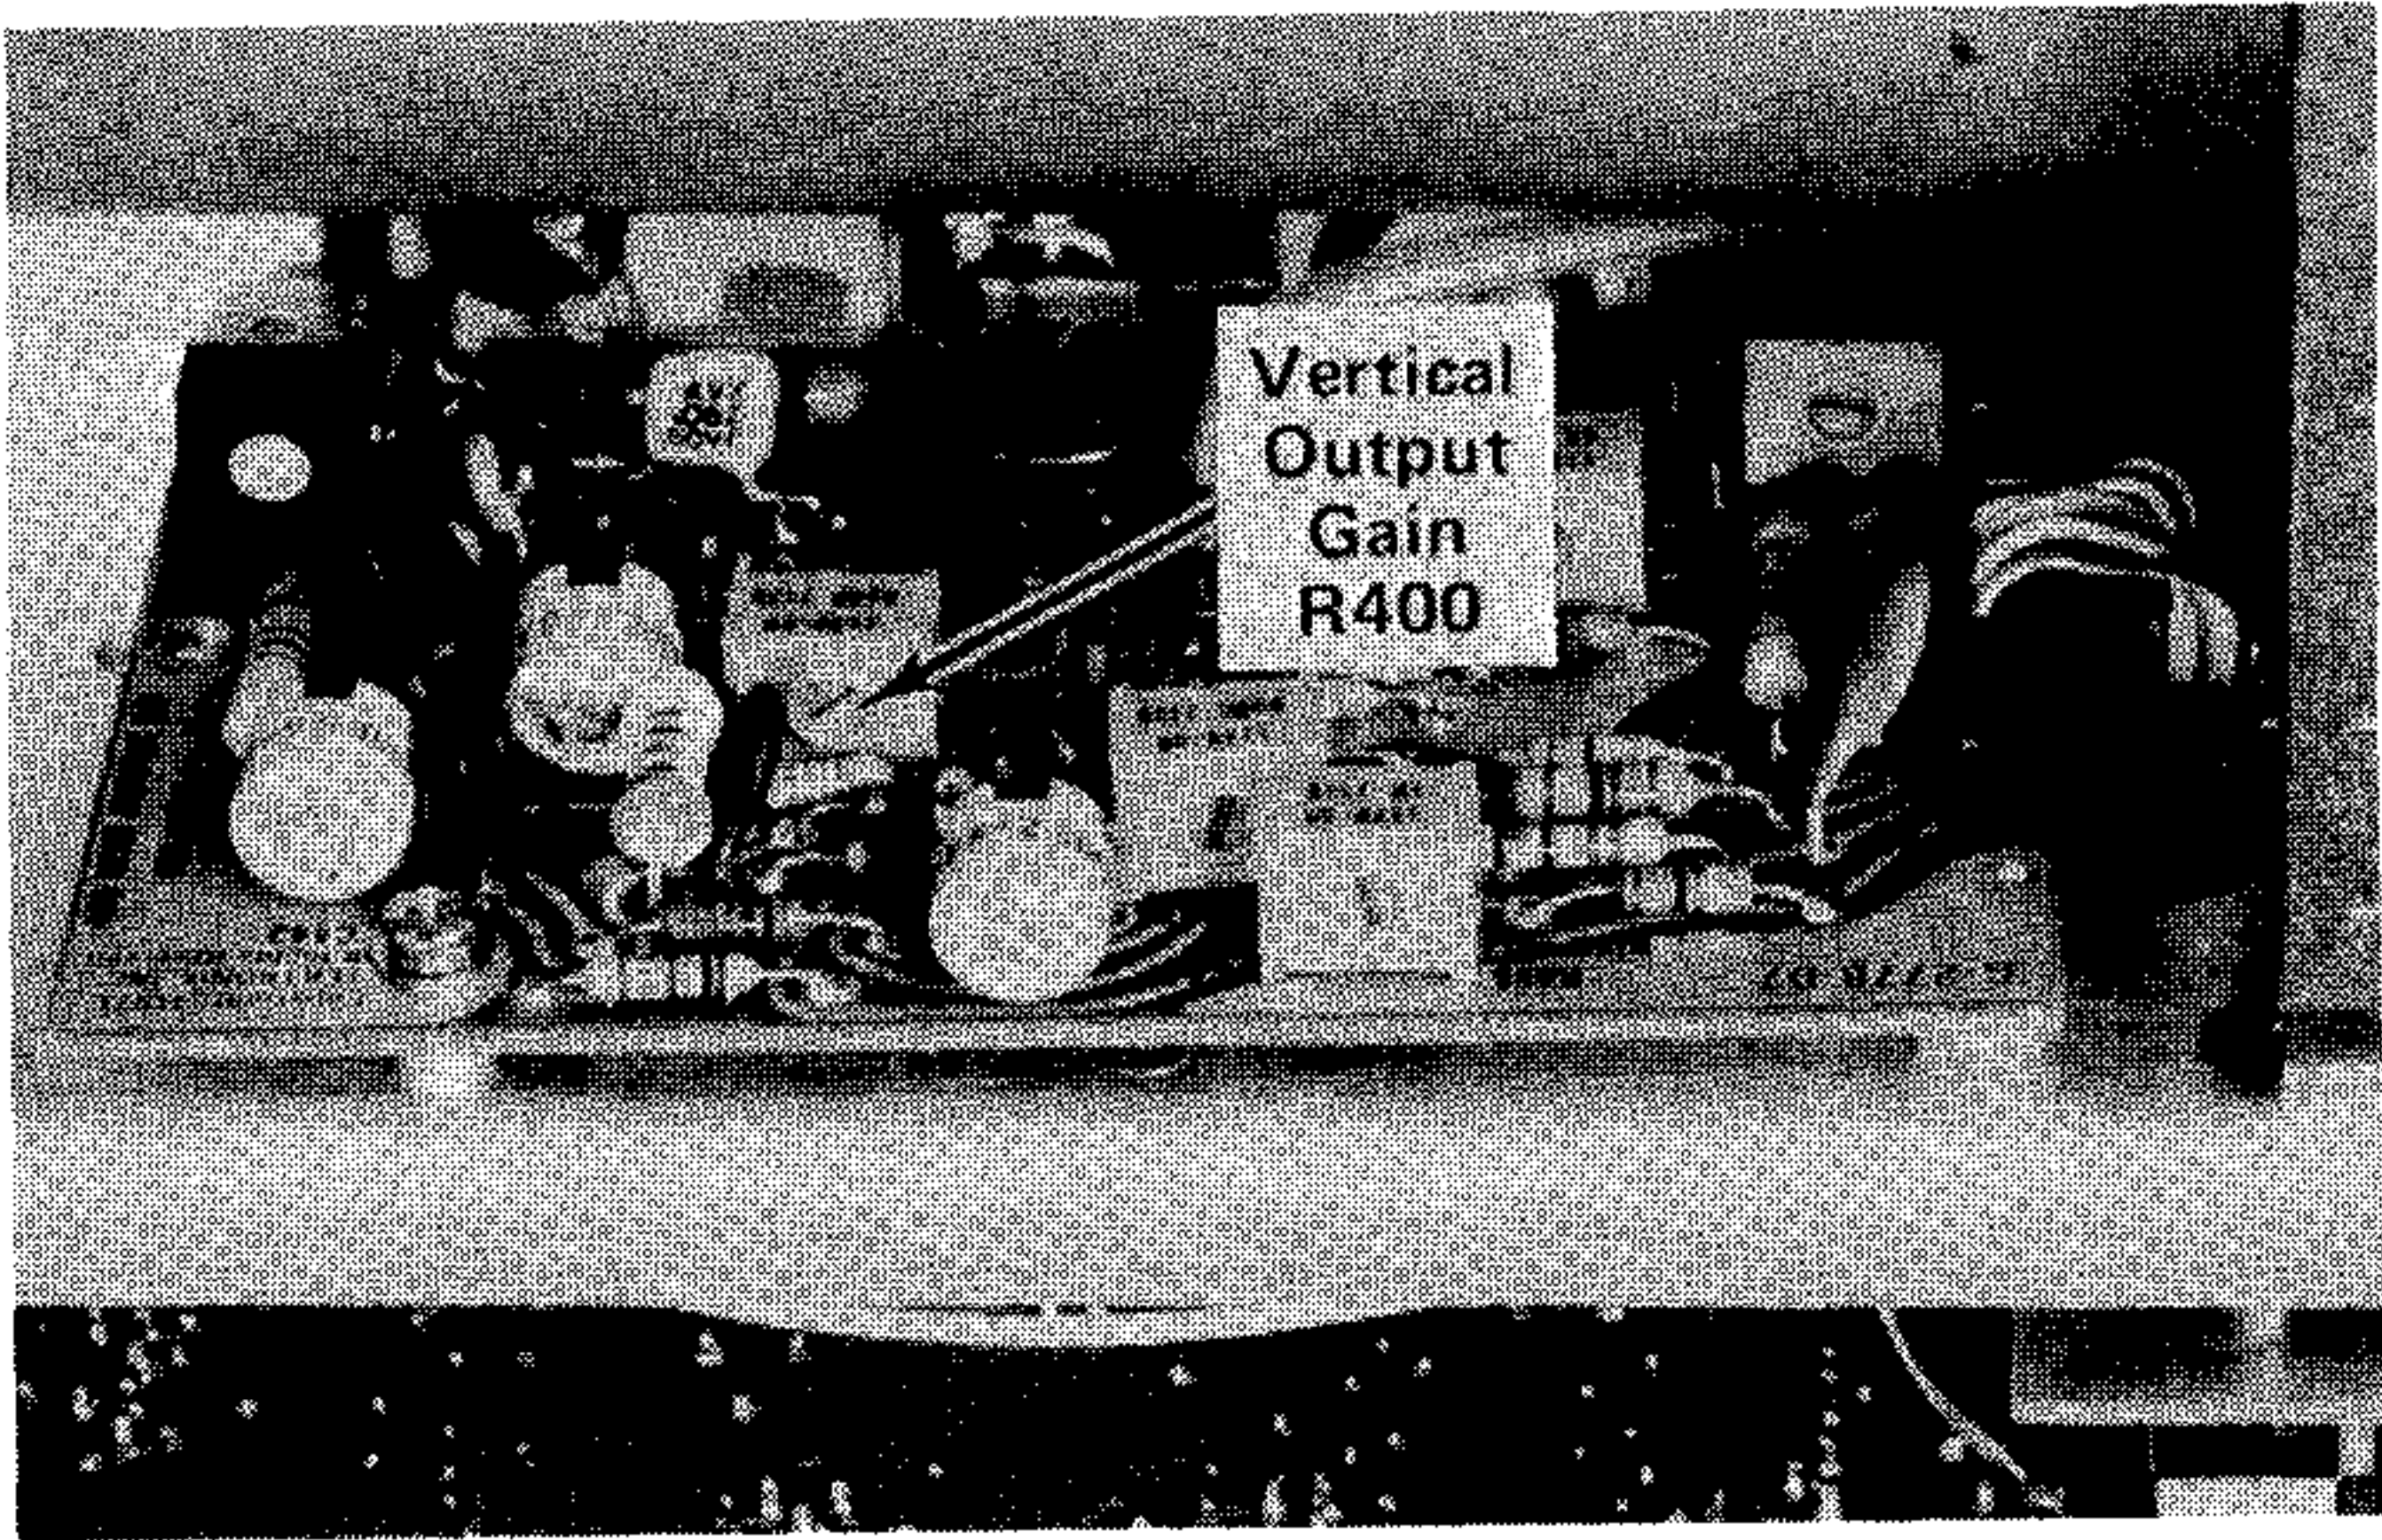

Fig. 5-15. Location of Vertical Output Gain adjustment.
- j. ADJUST—Vertical Output Gain adjustment, R400, (see Fig. 5-15) for 4 divisions of deflection.